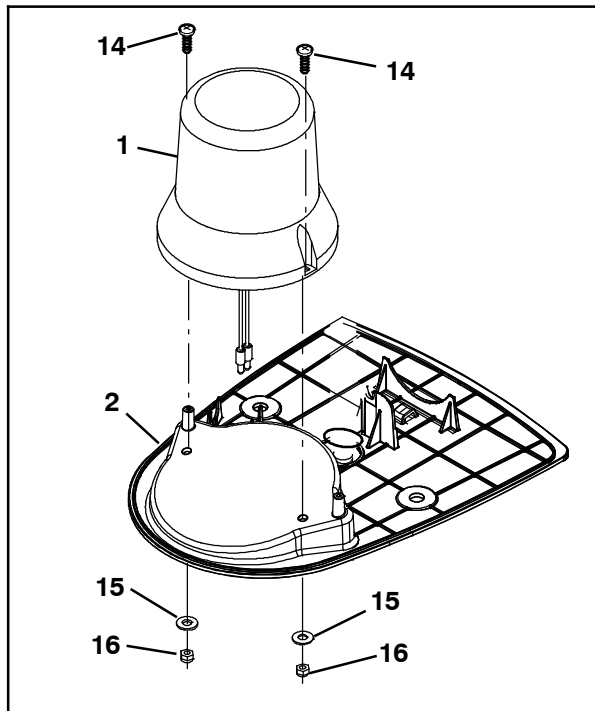

FIG. 3
- Use two M5 pan screws (14), two flat washers (15), and two M5 hex nuts (16) to install the strobe light (1) onto the light module base (2). (Fig. 3)